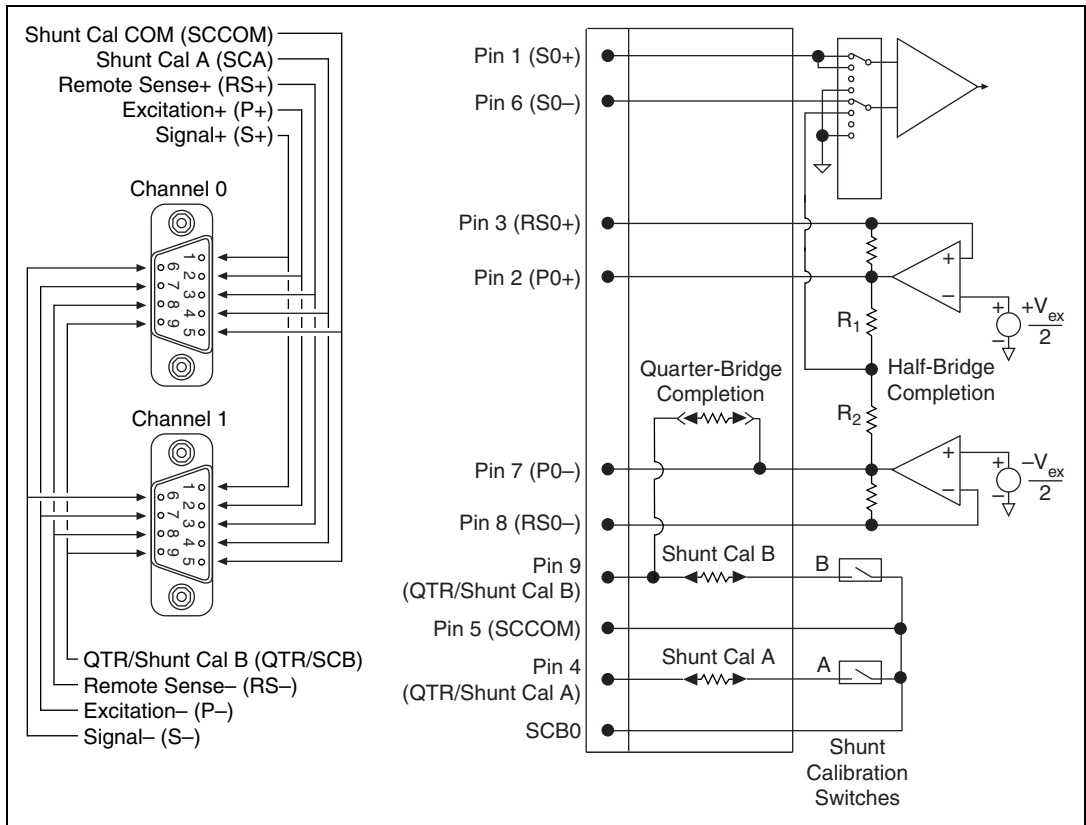

Figure 2. Front Connections
Note A suitable 9-pin D-SUB adapter is recommended for connecting external signals to the analog ports. The input connections on both channels are discussed in this document and are shown in Figure 2.
Figure 2 shows the NI PXI-4220 front connectors.
3. Connect pins S+ and S- of the channel you want to verify to the calibrator output. See Figure 2 for pin layout. If the calibration signal is floating, connect S- to chassis ground.
5. Connect your calibrator to the appropriate analog input, starting with channel 0 at pins S+ and S– inputs. See Figure 2 for pin connections. If the source is not ground referenced, reference it by connecting the S– to the PXI chassis.